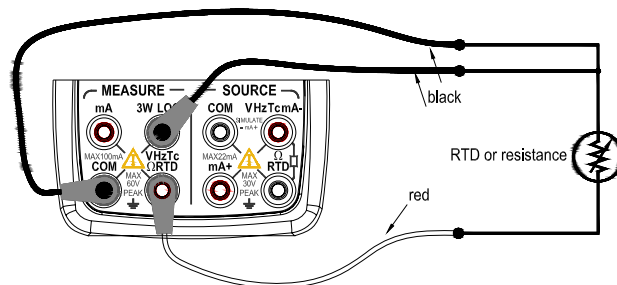

Figure 14 - RTD signal with 3w method
Three wire connection method for RTD signals (Figure 14)
Step 3: Connect the test lead cables to the terminals of the instrument under test as shown in Figure 14.